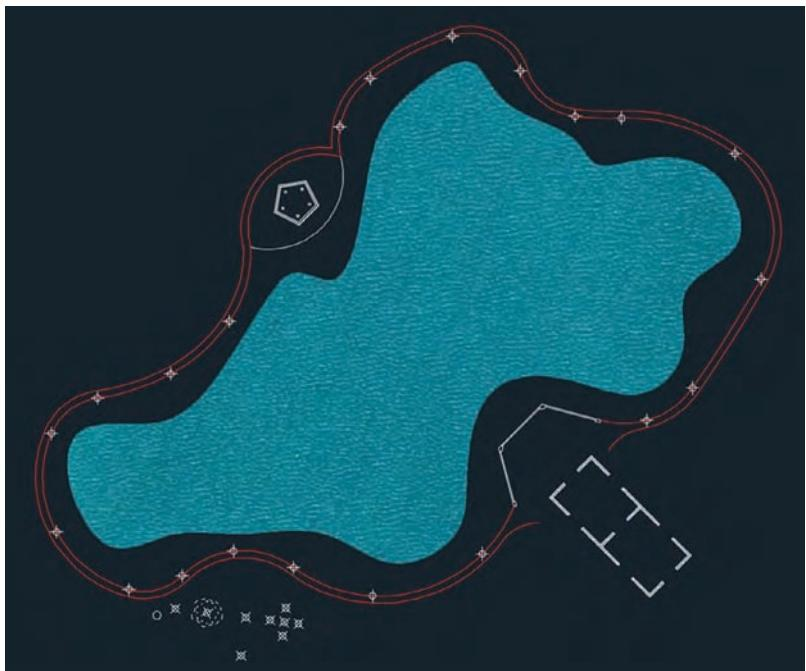

FIGURE 5.8 The curving path around the lake joined into two objects
17. Press the spacebar to repeat the **JOIN** command. Select the three objects along the inner edge of the path, which includes two polylines and the arc above the pentagon. Press Enter, and multiple segments are joined into one polyline (see Figure 5.8).